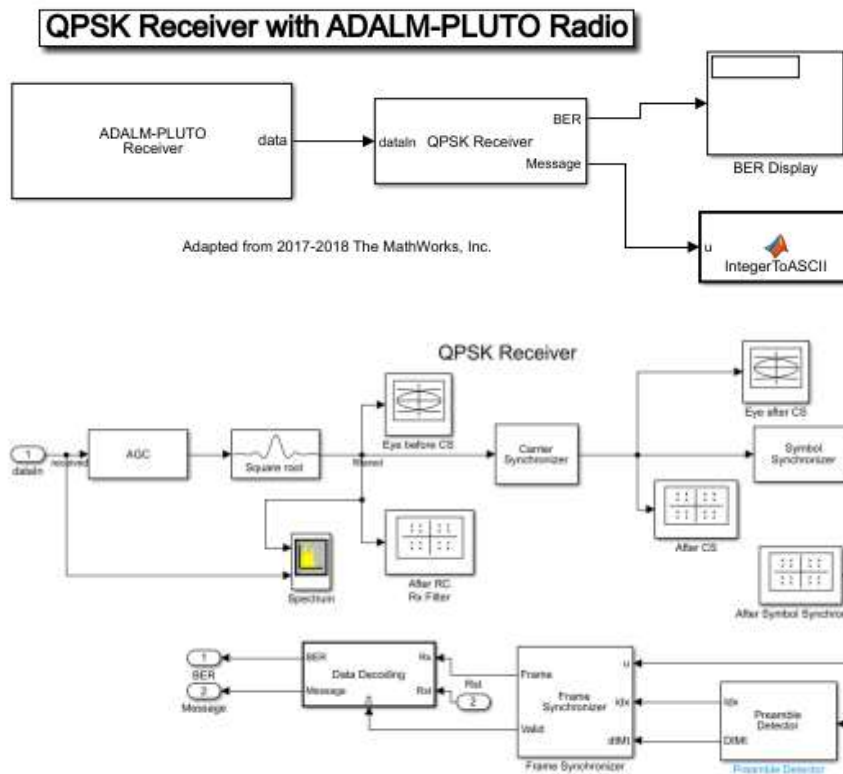

Figure 6: QPSK receiver implemented in Simulink
4.2) Download from Elearning, the QPSK receiver similar to the one shown in Figure 6. The different blocks were pre-configured for this laboratory work with the exception of the “Frequency correction (ppm)” parameter.